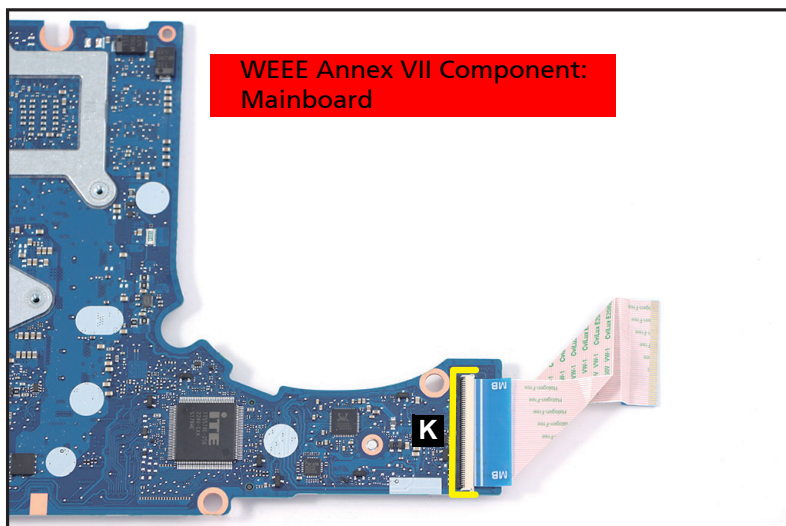

Figure 1-36. Mainboard Removal
14. Disconnect the UBS board FFC from the mainboard connector (K) (Figure 1-36).